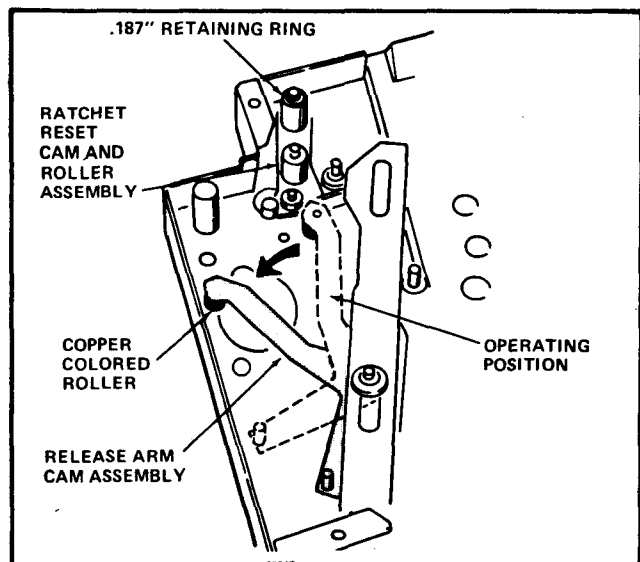

FIGURE 9
23. Move the copper colored roller on the Release Arm Cam Assembly against the Coin Mechanism sidewall. See Figure 9.
27. Move the Release Arm Cam Assembly into a position in which the copper colored roller on the Assembly touches the extension on the Ratchet Reset Cam and Roller Assembly. (Operating position shown in Figure 9.)